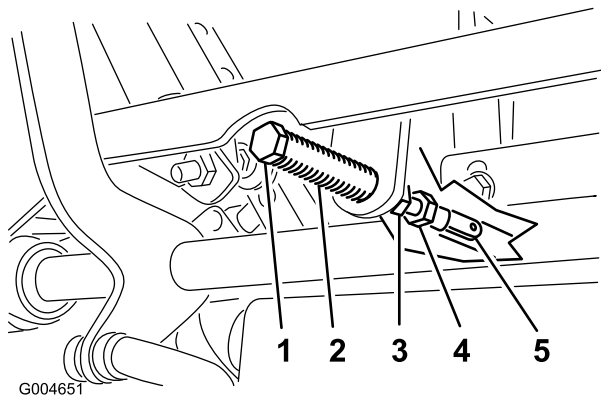

Figure 83
5. Pull the lever back until the clevis pin (on an arm above the pivot shaft) contacts the end of the slot (just beginning to put pressure on the spring) as shown in Figure 83.
7. If adjustment is needed, loosen the nut and jam nut against the yoke (Figure 83).
8. Applying slight rearward pressure on the motion-control lever, turn the head of the adjustment bolt in the appropriate direction until the control lever is centered in the NEUTRAL-LOCKED position (Figure 83).
9. Tighten the nut and jam nut (Figure 83).
10. Tighten the jam nuts at the ball joints (Figure 83).